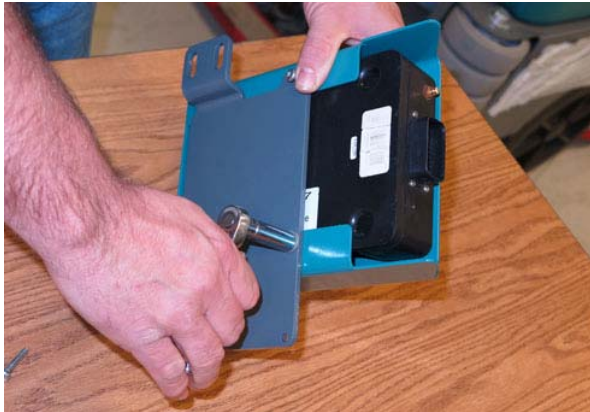

FIG. 8
12. Use three M6 hex screws (12), three flat washers (22), and the control box guard (4) to install the control box (1) into the controller bracket (7) and guard cover (9). (Fig. 8)